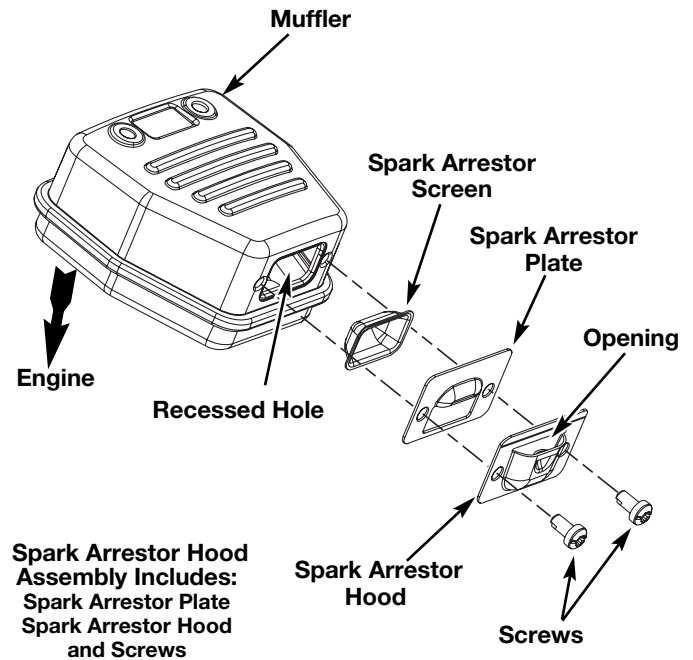

Fig. 37
2. Locate the muffler, but do not remove it. Find the two (2) screws on the bottom of the muffler (Fig. 37). These two screws hold the Spark Arrestor Hood Assembly and the spark arrestor screen to the bottom of the muffler. Remove the two (2) screws using either a torx #20 or flat blade screwdriver.
6. Place the spark arrestor plate on top of the spark arrestor with the “raised” side up and the opening facing towards the engine (Fig. 37).
7. Place the spark arrestor hood on top of the spark arrestor plate with the “raised” side up and the opening facing AWAY from the engine (Fig. 37). Verify that the exhaust will be directed AWAY from the engine.